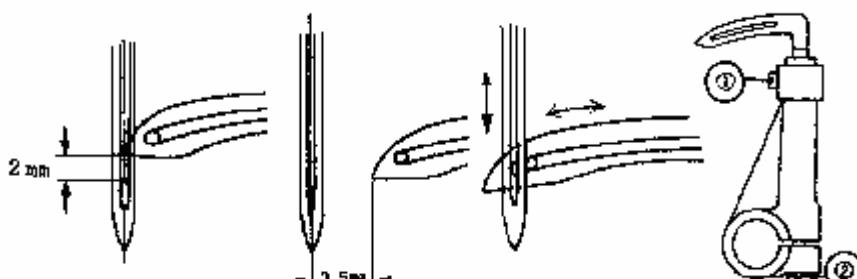

Fig.24
#### 十九. 弯针的勾取量(图24)
1. 弯针的针尖到达机针的中心位置时,弯针针尖离机针孔上端的距离标准值是2mm,此时针杆下刻线和针杆下衬套下端面对齐。(如图24)
3. 机针和弯针孔的相对关系如图24所示。(左右弯针可以分别调整)
#### 19. Thread - guiding amount of the looper (refer to Fig. 24)
1. The standard value of the vertical distance of the point of the looper away from the upper end of the eye of the needle is 2mm, then the graduation mark on the lower part of the needle bar shall be in line with the lower end of the needle bar bushing, lower. (refer to Fig. 24)
3. The relation between the eye of the needle and the eye of the looper is indicated in Fig. 24.